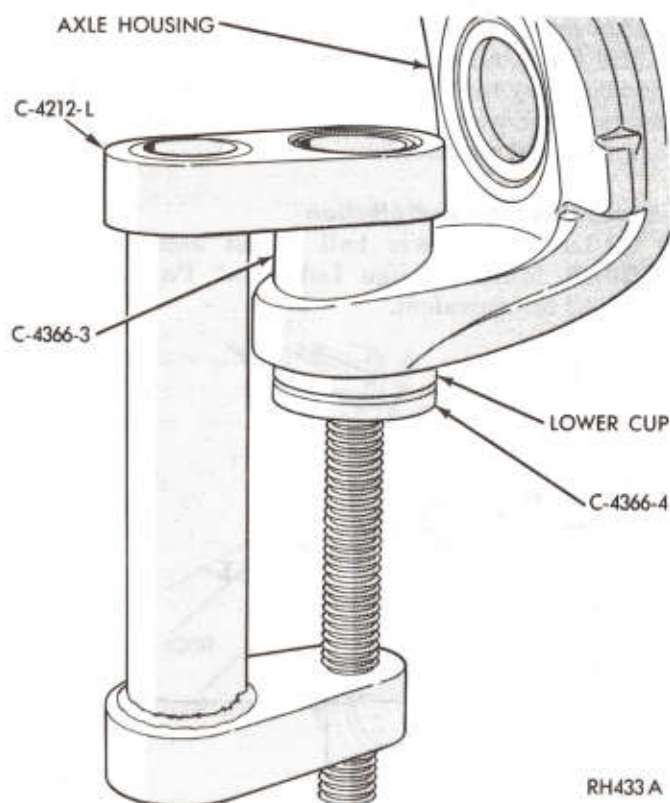

Fig. 13—Installing Seal and Lower Bearing Cup
(2) Using Tool C-4212-L, C-4366-3, and C-4366-4 positioned as shown in Figure 13, press seal and lower bearing cup into axle housing.